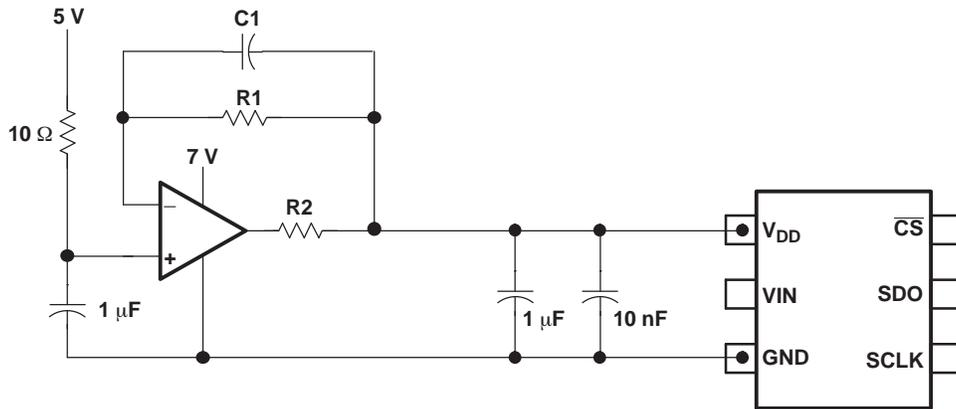

Figure 24. Buffering with the OPA735
- A low-pass filtered version of the system supply followed by a buffer such as the zero-drift OPA735 can also be used in cases where the system power supply is noisy. Care should be taken to ensure that the voltage at the VDD input does not exceed 7 V (especially during power up) to avoid damage to the converter. This can be done easily using single supply CMOS amplifiers like the OPA735. Figure 24 shows one possible application circuit.